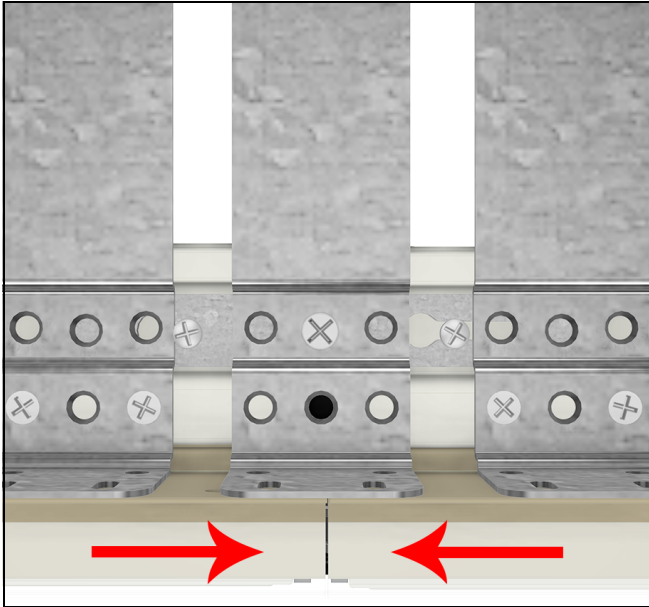
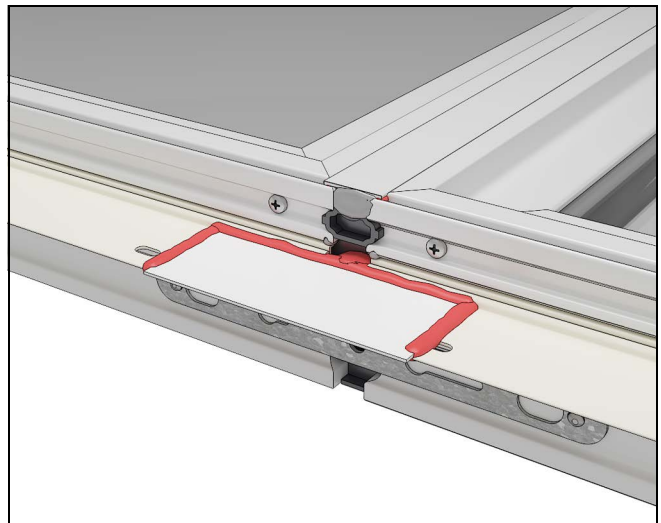

Figure 15
Figure 16
5. Replace the nailing fin on the frame perpendicular to the mull. Leave sill nail fin off at this point. Slide the nailing fin in from the corners all the way until they butt up against each other over the mull plugs. Install the nail fin connector gaskets and seal around the edges of the connector. See Figure 15 and Figure 16.